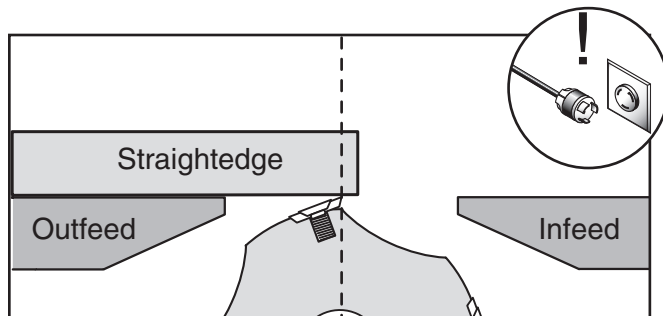

Figure 13. Using a straightedge to align outfeed table height with insert at TDC.
4. When correctly set, the carbide insert will just touch the straightedge when the insert is at its highest point of rotation (**Figure 13**).